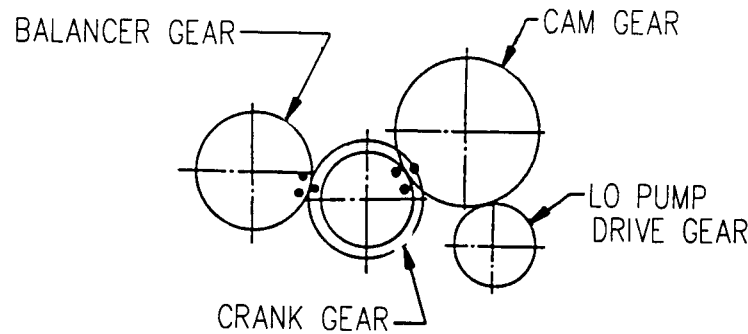

Figure 5-21. Aligning Timing Marks
- (2) If removed, install rear bearing in crankcase cover so bearing is flush with surface of cover.
- (3) Install balancer shaft in cylinder block.
- (4) Align timing marks on gears, Figure 5-21.
- (5) Install crankcase cover, refer to paragraph 5.16.c.